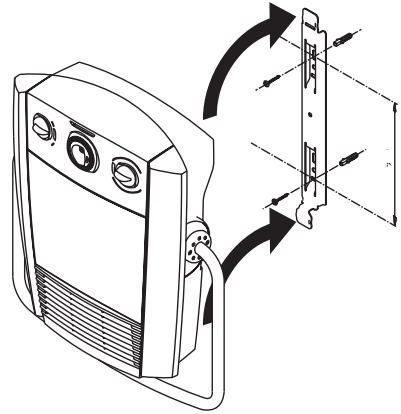

fig.2
3. Before drilling the wall, mark the exact points as shown in fig. 2.
5. Fix the bracket with the two screws provided (fig. 2).